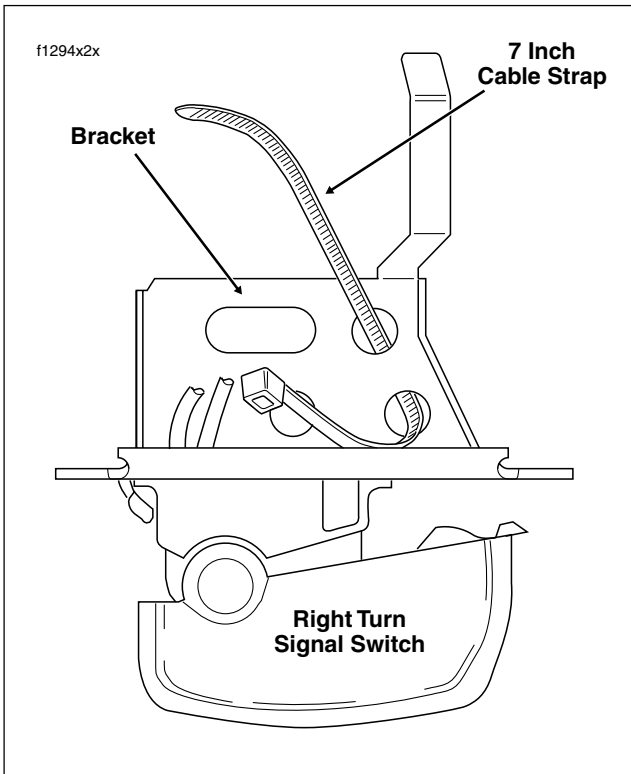

Figure 8-105. Insert Cable Strap in Switch Bracket
1. Insert tapered end of **new** 7 inch cable strap into round hole in turn signal switch bracket and then feed back through using the adjacent hole. Reserve the oblong hole for the bracket screw. See Figure 8-105.